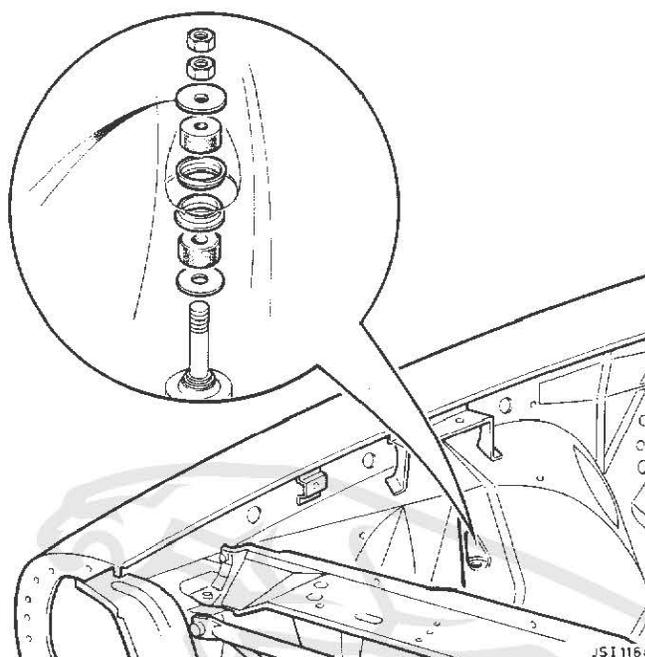

FIG 1.
3. Remove and discard the top washer (Fig 1).